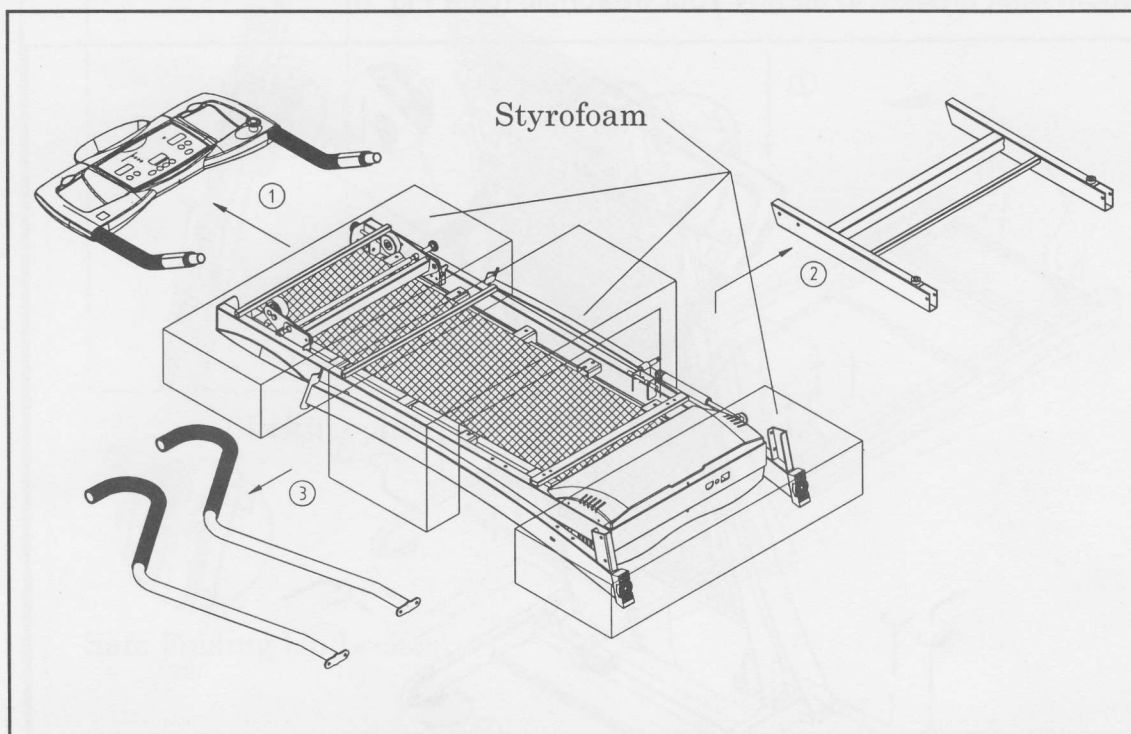

Fig.7
1. Please remove electronic package, bottom post bracket, and long handrail from box. (See Fig. 7)